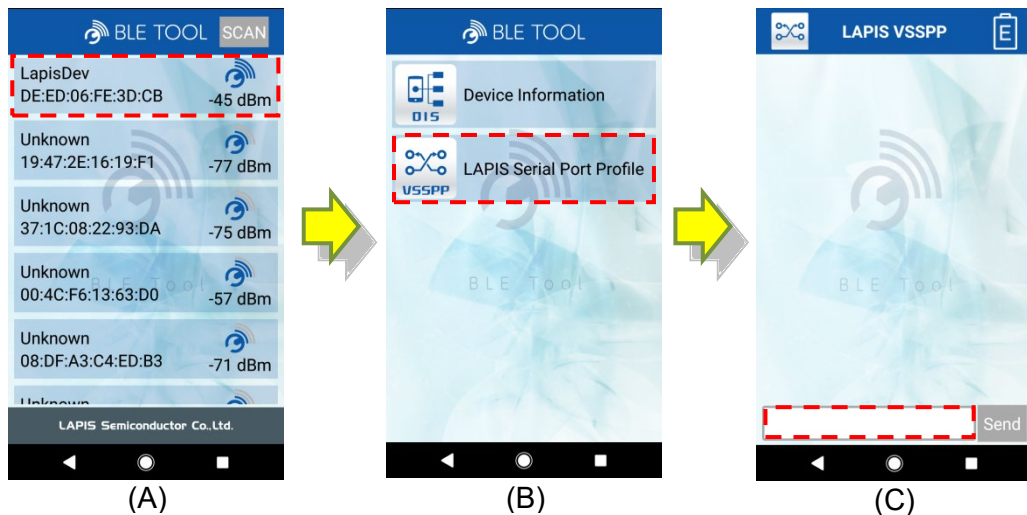

Fig. 3-4 : BLE Tool operation screen example
- A) When "BLE Tool" is started, the screen in Fig. 3-4 (A) is displayed. In this screen, the central side scans and displays Bluetooth® low energy devices from the detected advertisement packets. The AT command application for MK715x1 is displayed with the device name "LapisDev" by default, so tap this.
- B) The Bluetooth® Low Energy connection procedure is executed, and the service search screen shown in Fig. 3-4 (B) is displayed. At this time, "CONNECT" is output to the terminal screen on the peripheral side. In the screen in Fig. 3-4 (B), the central side executes the service search and displays the detected services. In case of AT command application for MK715x1, two services of "Device Information" and "LAPIS Serial Port Profile" are displayed. The latter is the service used for data communication in AT command applications. Tap the "LAPIS Serial Port Profile" icon.
- C) The screen shown in Fig. 3-4 (C) is displayed. You can send and receive data on this screen. When you tap the text box displayed at the bottom of the screen, the soft keyboard is displayed, so if you input a character string from the soft keyboard and tap the "Send" button, the character string you input to the peripheral will be sent. Similarly, if you enter characters from the terminal screen on the peripheral side, it will be sent to the central side.